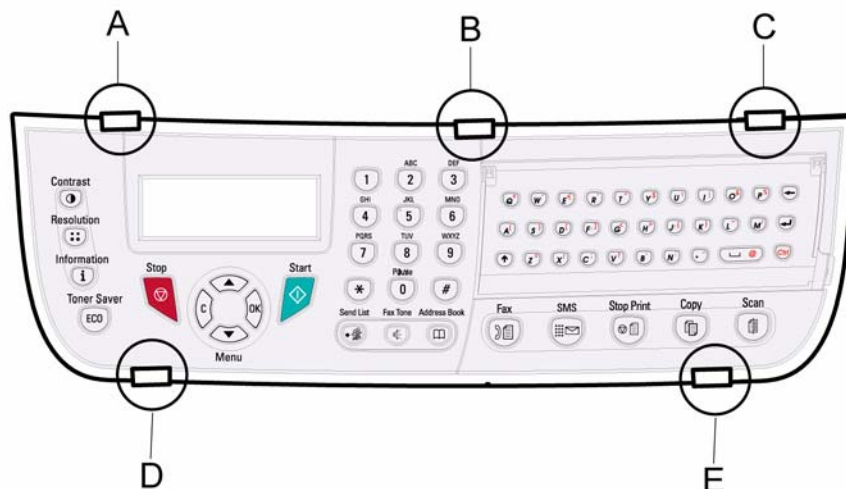

Figure 1 (3100 MFP/X shown, 3100 MFP/S similar)
1. Unlock the three clips of the front panel (**A**, **B** and **C**), Figure 1.